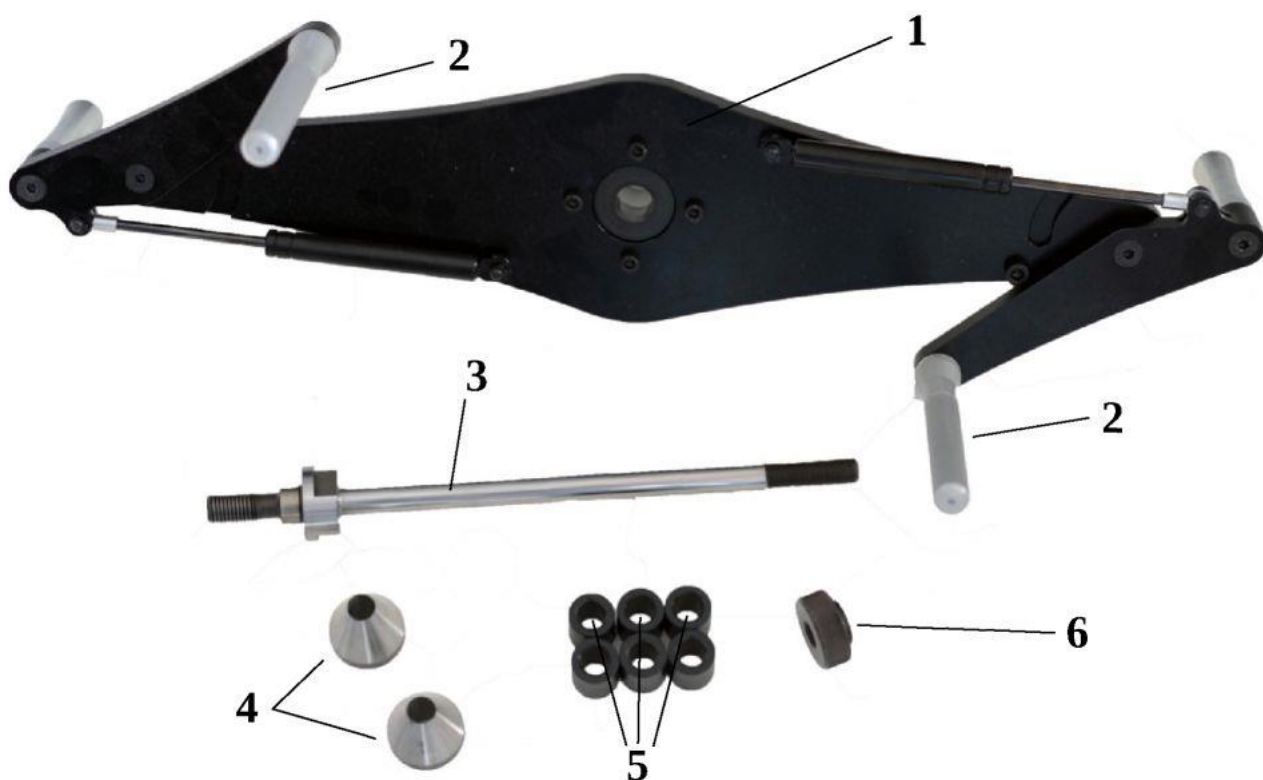

Fig. 7: Motorcycle holder elements:
Motorcycle wheels holder has been mounted the similar way as the car holder (described in section WHEEL HOLDER MOUNTING). Figure 7 shows the motorcycle holder and describes all its components.
If there is a car wheel holder mounted on the balancer (figure 3) dismantle it and install the motorcycle holder (figure 7) as described in section, THE MOTORCYCLE WHEEL HOLDER MOUNTING.
- Make sure that the tyre clamps 2 shown in figure 7 are in the open position and that one of the cones 4 in figure 7 is placed on holder axle (figure 14a).
- To fast the wheel well place the offset sleeves 5 in figure 7 behind the cone so that there is a place for the holder nut 6 in figure 7 (figure 14c).